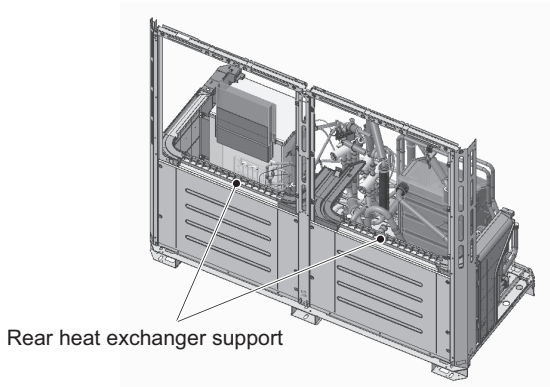

Figure 23
(17) Remove the heat exchanger by diagonally lifting it up, using caution not to damage the fins or the pipes.
(18) After removing the rear heat exchanger, dispose of the rear heat exchanger support. (See Figure 23.)